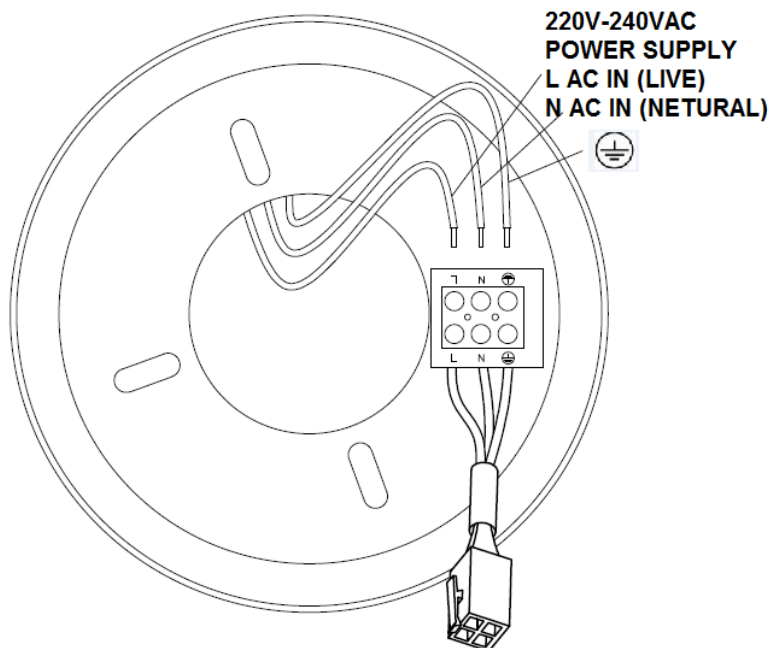

Fig. 4
- Complete the electrical wiring using the diagram below (Figure. 4).
## PREPARE AND COMPLETE THE ELECTRICAL WIRING --- WIRING DIAGRAM (Fig. 4)